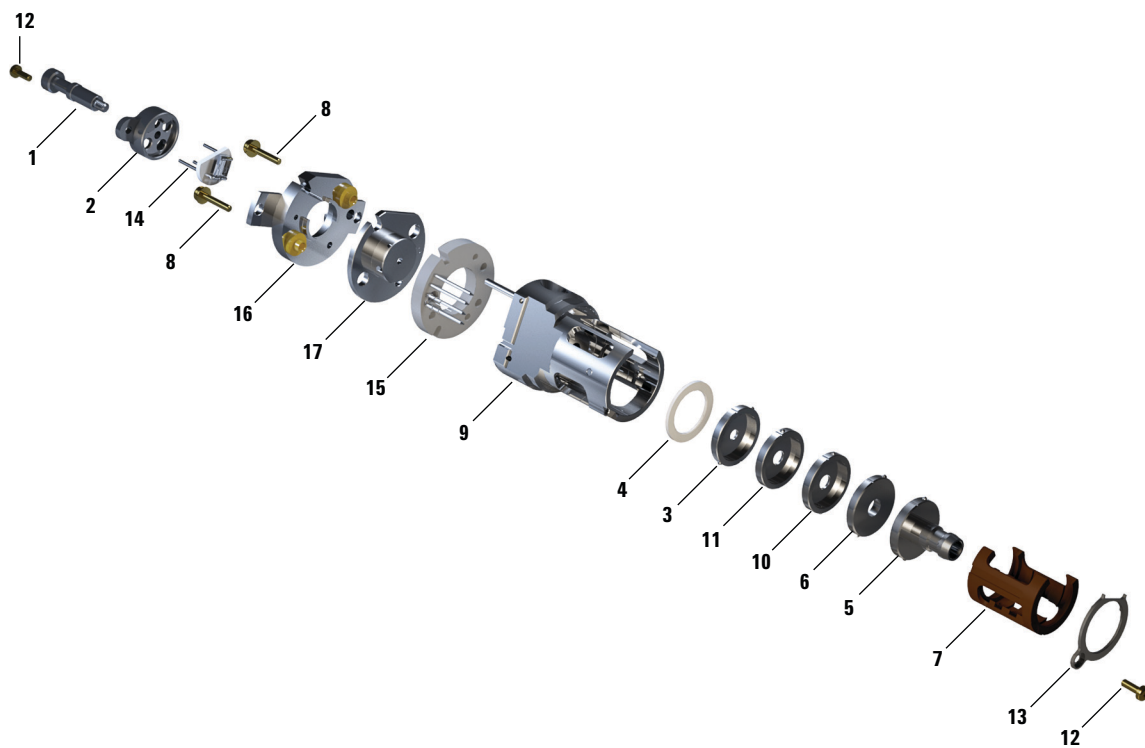

Figure 61 Assembling the EI HES
Refer to the exploded parts view Figure 61 and the EI HES parts list Table 19 on page 190 while using this procedure.
- 3 Insert the lens stack encased in the insulator into the source body. (See **Figure 61** on page 190.) The engraved numbers face the full opening extending to the end of the source body. Verify that the ceramic is sitting flush at the end of the source body.
**Table 19 Parts list for EI HES (Figure 61)**
**Table 19 Parts list for EI HES (Figure 61) (continued)**